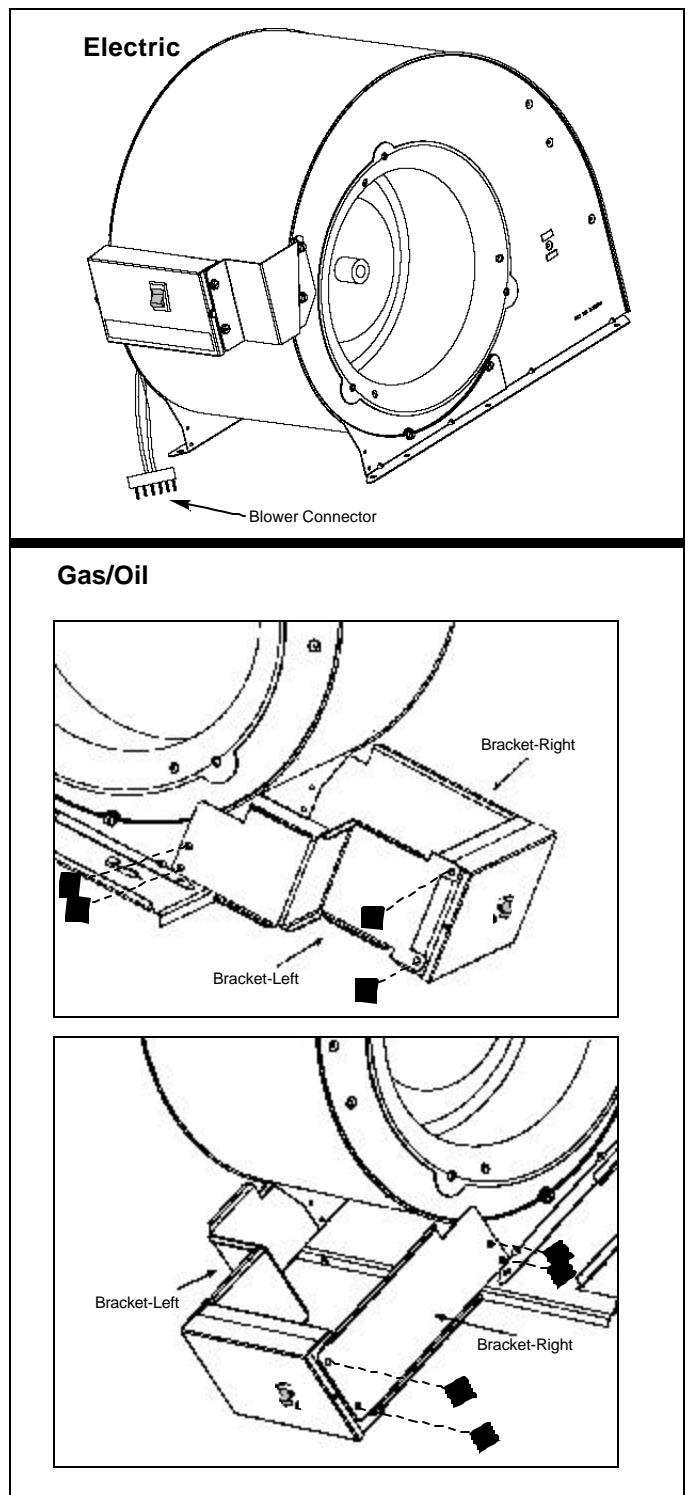

Figure 6. Ventilation Switch Box Attachment
- Attach the appropriate brackets to the sheet metal box and secure assembly to blower (see Figure 6). **NOTE:** The blower may need to be pulled out of the furnace slightly in order to secure the brackets.